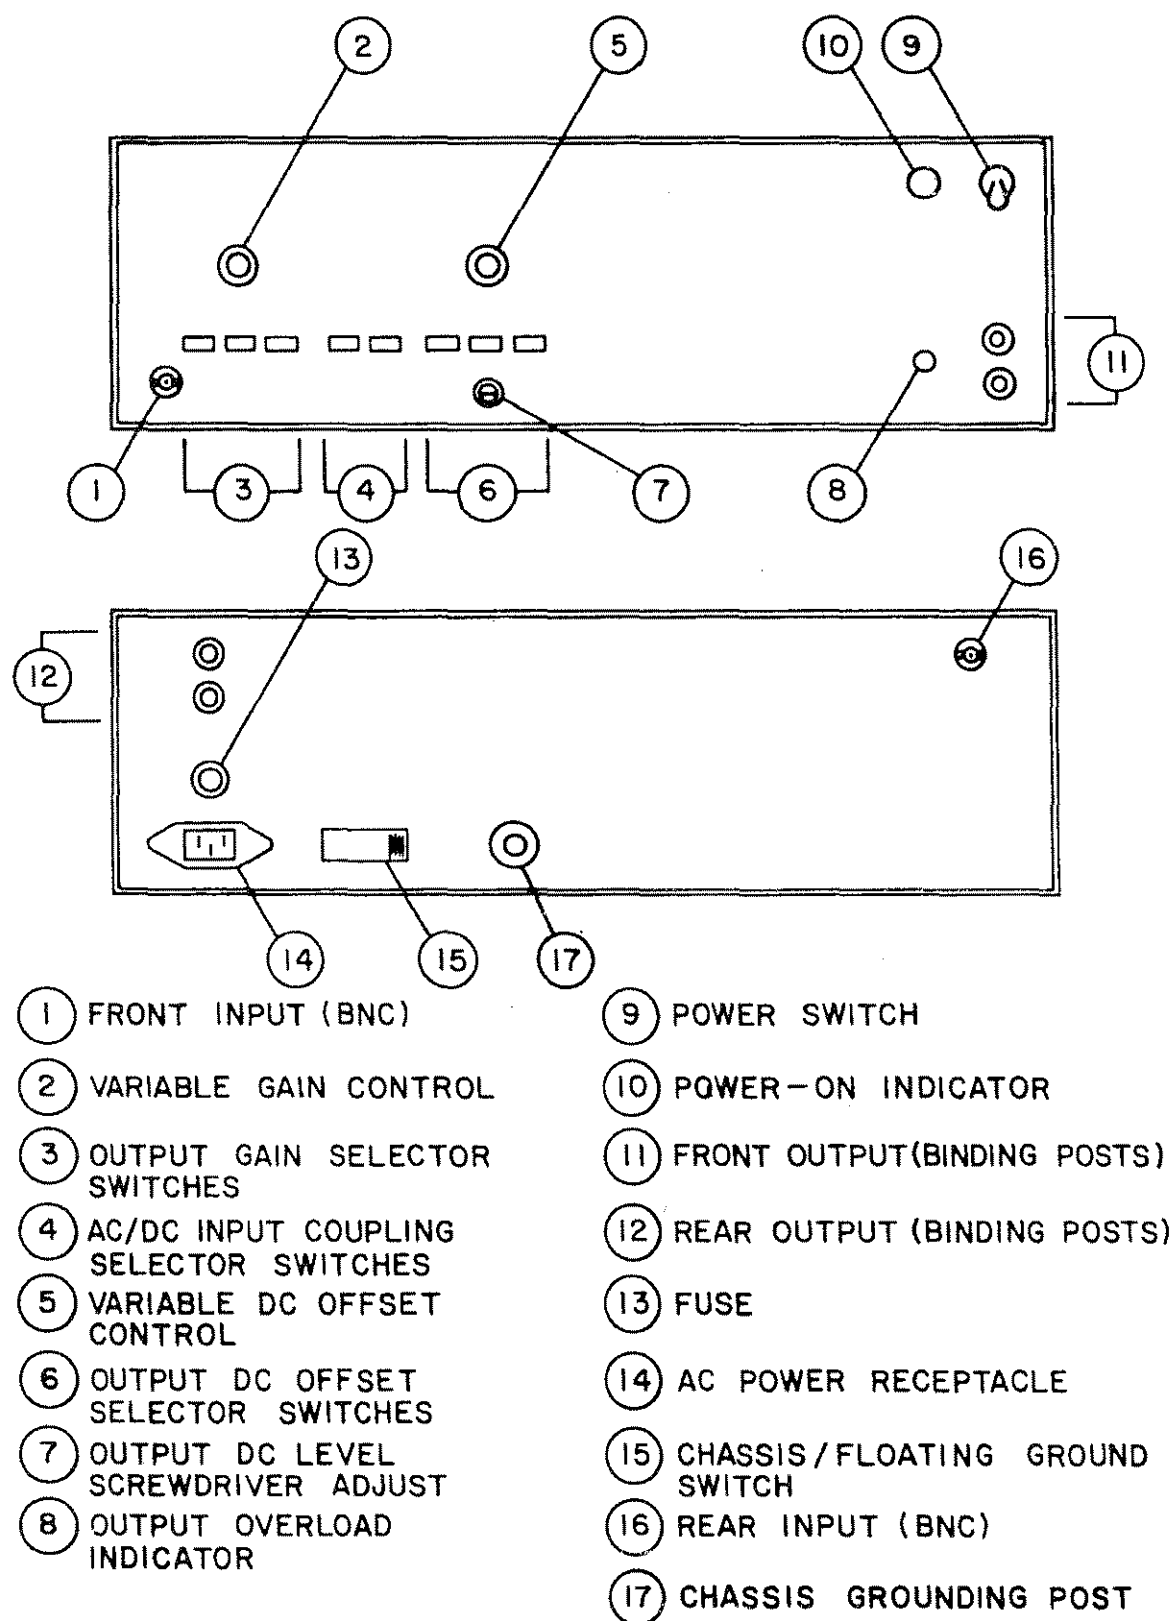

Figure 8. Operating Controls, Connectors and Indicators.
2.2 OPERATING CONTROLS< CONNECTORS AND INDICATORS (See figure 8)